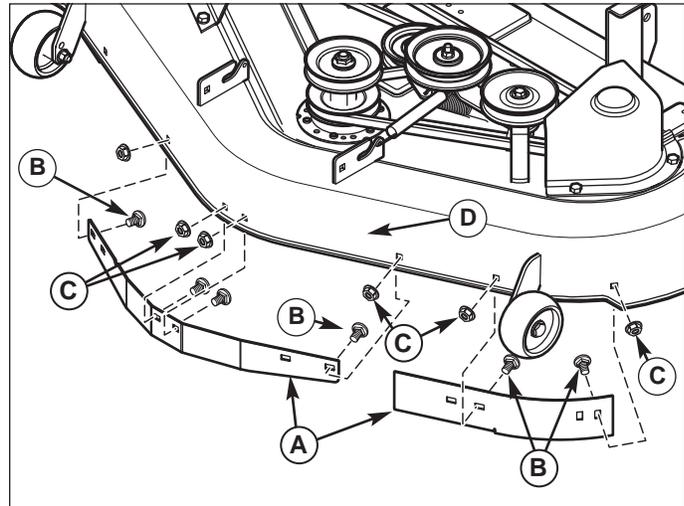

**Figure 1. Install Counter Weight**
1. Slide pins (A, Figure 1) on counterweight (B) into slots (C) on front footrest support bracket (D).
2. Secure counterweight (B) with pin (E) to front footrest support (D).
3. Secure pin (E) with safety clip (F).